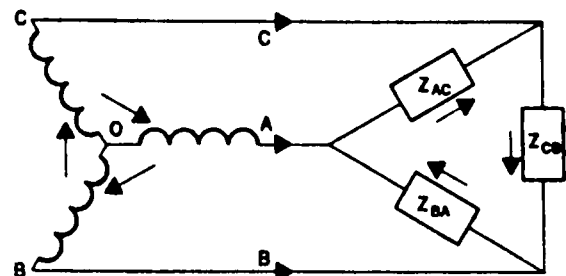

Figure 4-7 — Load Connected in Delta Fashion
- 2) To apply 208 volts to a load, connect the load in DELTA fashion as shown in Figure 4-7